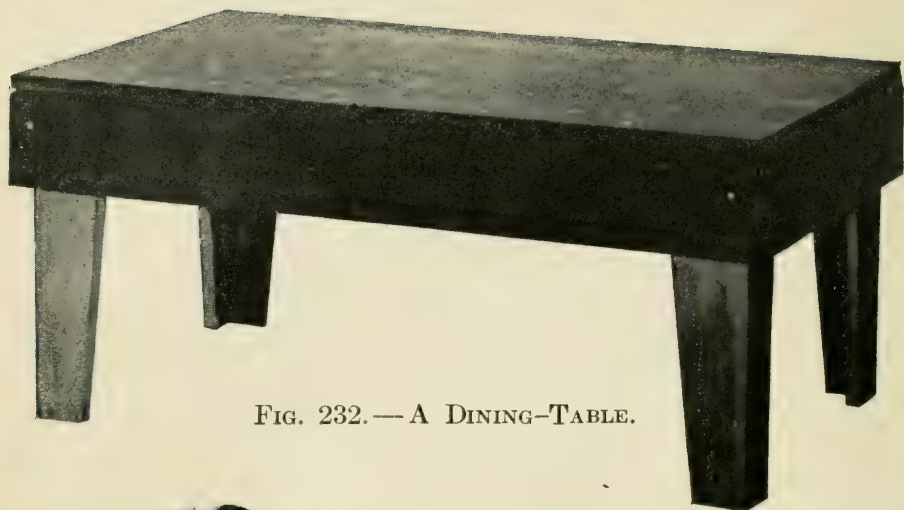

FIG. 232.—A DINING-TABLE.
**The Dining-table** shown in Fig. 232, and after making